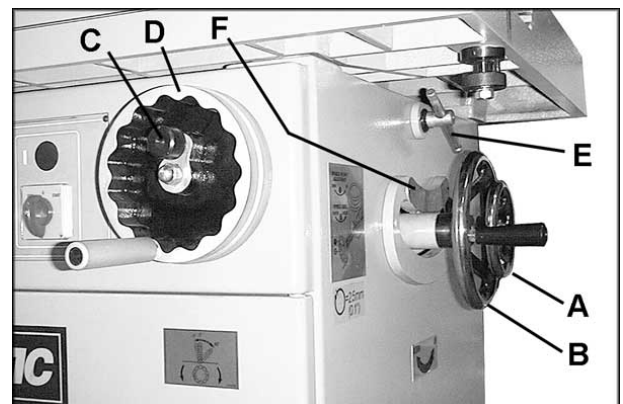

FIGURE 29
1. Loosen handwheel lock (A), shown in Figure 29, and turn handwheel (B) counterclockwise to raise the spindle; clockwise to lower the spindle.
1. Loosen the knob (C) on the front handwheel (D). See Figure 29.
2. Loosen the two locking handles (E) on both sides of the machine.
3. Turn the handwheel (D) to the required tilting angle shown on the indicator (F).
4. Tighten the knob (C) and locking handles (E).